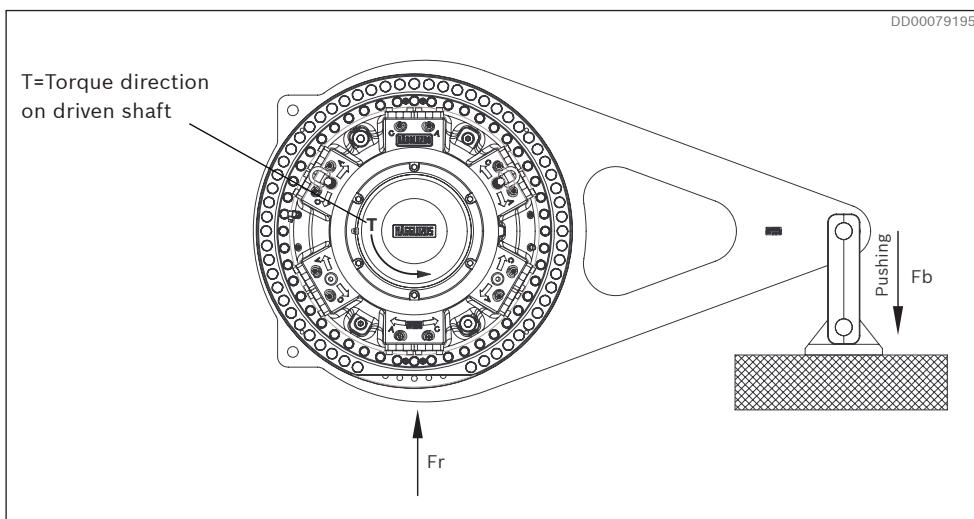
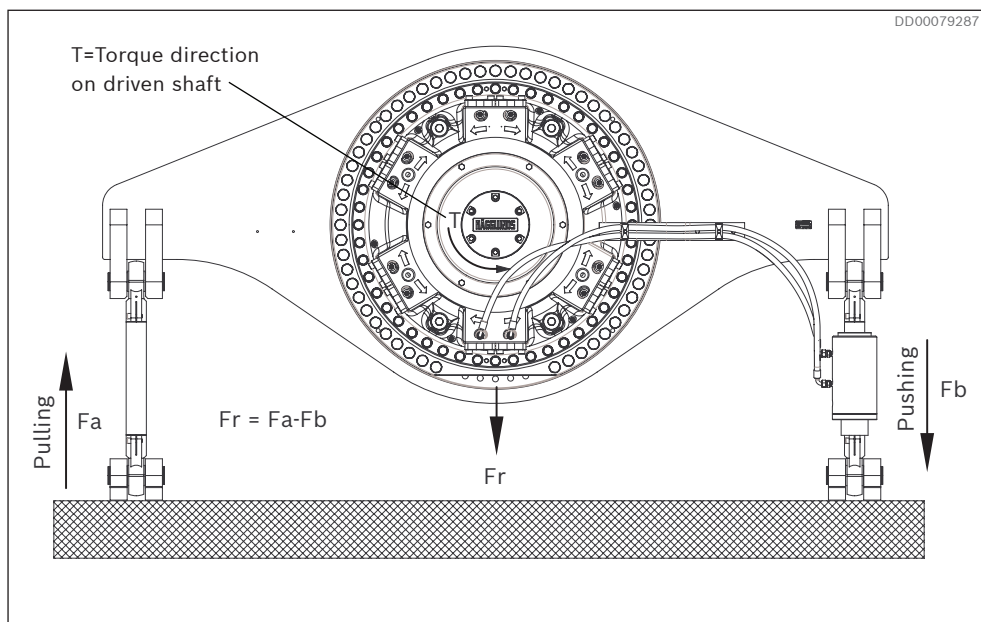

Fig. 25: External forces Fr, Fb for TC A
Fig. 33: External forces Fr, Fa, Fb for DTCBM
2. Oil the screws (1).
3. Make sure that the foundation can withstand the forces from the torque arm, see *Fig. 25, Fig. 33, Table 9 and Table 12*.
6. Tighten the screws (1) to the torque stated in *Table 7: Screw dimensions*.
- ▶ Make sure the foundation and the customer machine, can withstand the forces from the torque arm. See *Fig. 25, Fig. 33, Table 9 and Table 12*